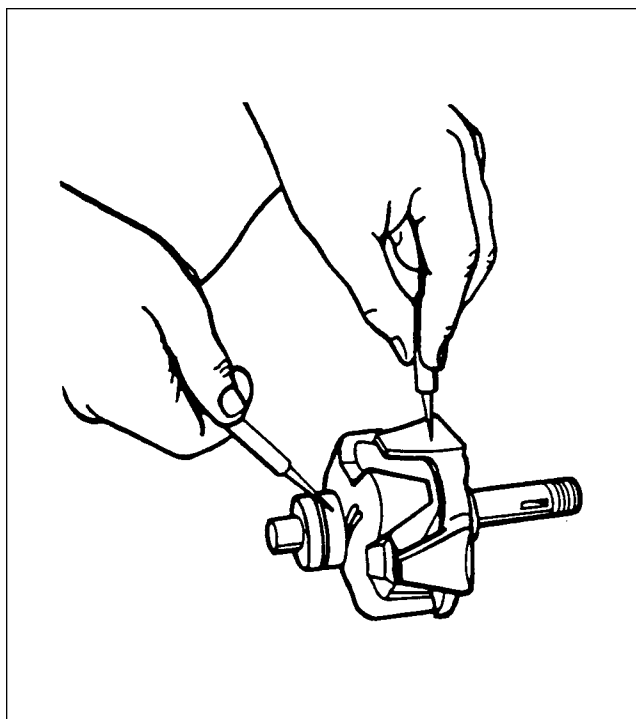
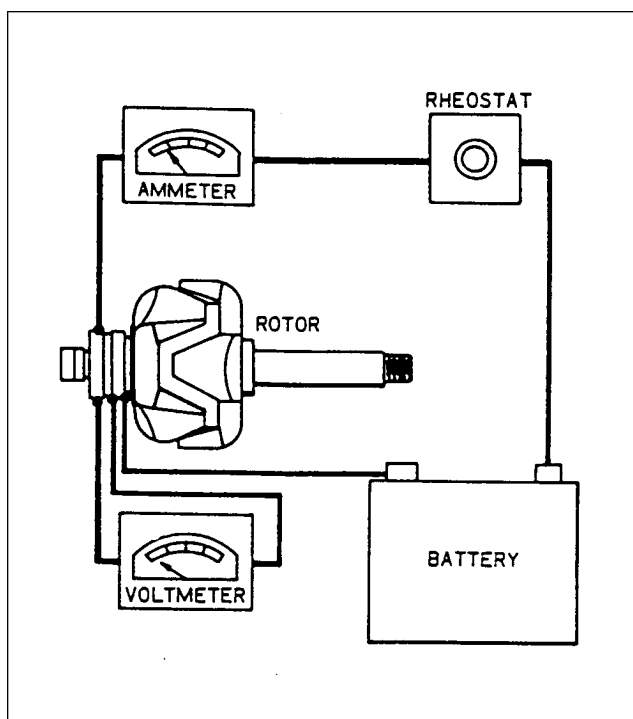

Figure 24-33. Testing Rotor for Ground
Figure 24-34. Testing Rotor for Shorts
1. Rotor: Test rotor for grounded or shorted windings. Ground testing is made with test probes, connected in series with a 110-volt test lamp, an ohmmeter or any type of continuity tester. (Refer to figure 24-33.) There must not be any continuity between slip rings and rotor shaft or poles. Test for shorted turns in rotor winding by connecting a voltmeter, ammeter, and rheostat as shown in figure 24-34, or use an ohmmeter. Rotor current draw and resistance are listed in Alternator Service Test Specifications. Excessive current draw or a low ohmmeter reading indicates shorted windings. No current draw or an infinite ohmmeter reading indicate an open winding.